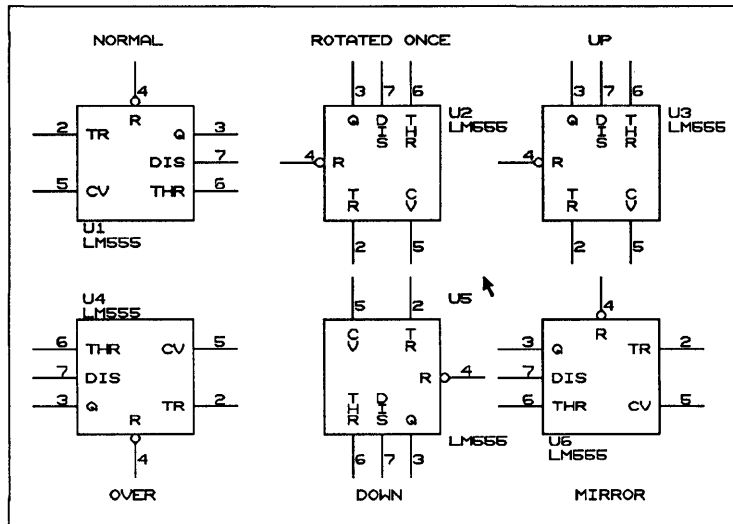

Figure 2-7. Normal, Rotated, Up, Over, Down, and Mirrored positions.
*Rotate* Select **Rotate** to turn a part counterclockwise 90° (figure 2-7). Each time you select **Rotate**, the part rotates an additional 90°.
*Normal* Select **Normal** to rotate an object to its original position, as shown in the library (figure 2-7). This command also returns mirrored or converted parts to their original form.
**Up** Select **Up** to turn an object 90° counterclockwise (figure 2-7). This is equivalent to rotating it once from its normal position.
**Over** Select **Over** to turn an object 180° counterclockwise (figure 2-7). This is equivalent to rotating it twice from its normal position.
**Down** Select **Down** to turn an object 270° counterclockwise (figure 2-7). This is equivalent to rotating it three times from its normal position.
**Mirror** Select **Mirror** to get a mirror image of an object (figure 2-7).